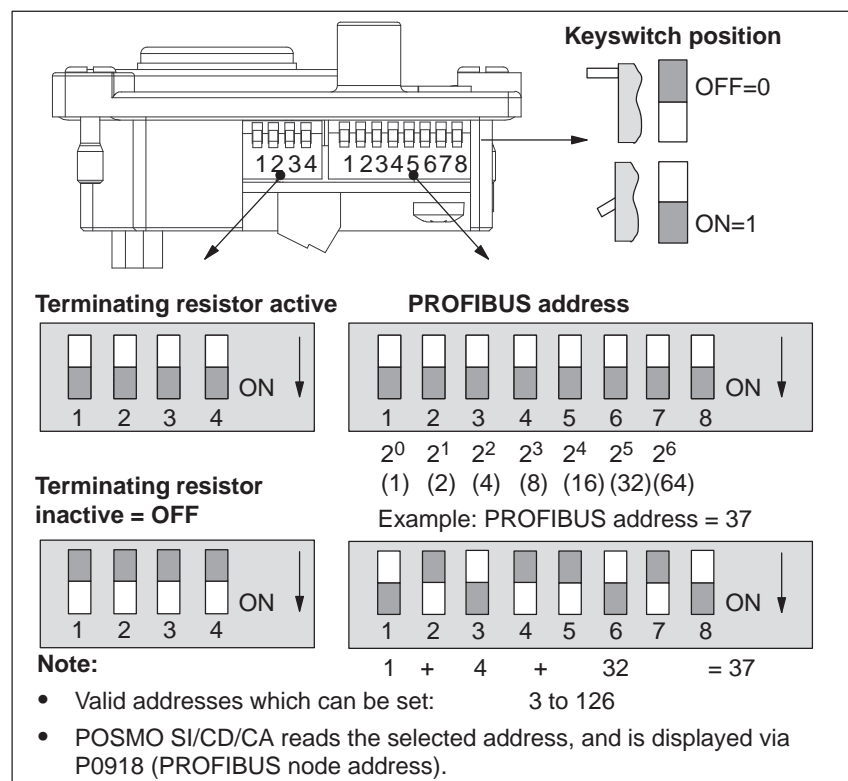

Fig. 2-32 Set the PROFIBUS address and terminating resistor
- The PROFIBUS terminating resistor for this "DP slave POSMO SI/CD/CA" must be switched-out using switches S1-S4 (refer to Fig. 2-32).
- > The bus termination should be switched-in using DIL switches S1-S4 (refer to Fig. 2-32).
- > The bus termination must be switched-out using switches S1-S4 (refer to Fig. 2-32).